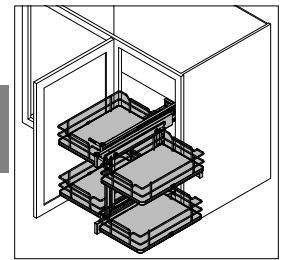

Fig. 10
Secure the top (and middle if applicable) Solid Bottom Trays (E) to the Frame (B) using (2) Shelf Retainers (M) and (2) M4 Truss Head Phillips/Slotted Screws (O) (See Fig. 10).